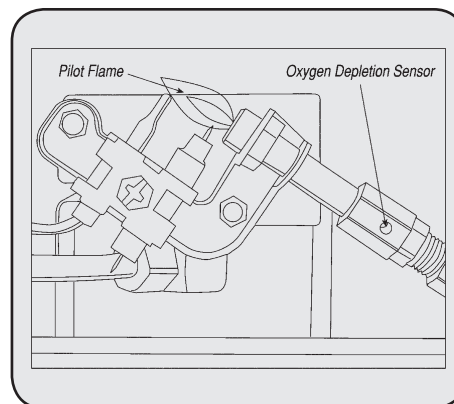

Figure 6
- Visually inspect the pilot flame and burner periodically during use. The pilot flame should be blue in color (not yellow) and will extend to the thermocouple. The flame will surround the thermocouple just below the tip. See Figure 6.
3. Remove (4) four screws that secure the rear cover (ref. # 3) to the heater.
5. Remove (3) screws attaching lower baffle to expose burner air openings.
8. Inspect and clean pilot (mounted to bracket) by using a vacuum or apply air pressure through the holes in the pilot indicated by the arrows in Figure 6.
10. Reinstall lower baffle with (3) screws.
11. Slide back cover over (2) plastic hooks on top of heater. Make sure rear cover aligns with plastic side covers and reinstall (4) screws to hold in place.